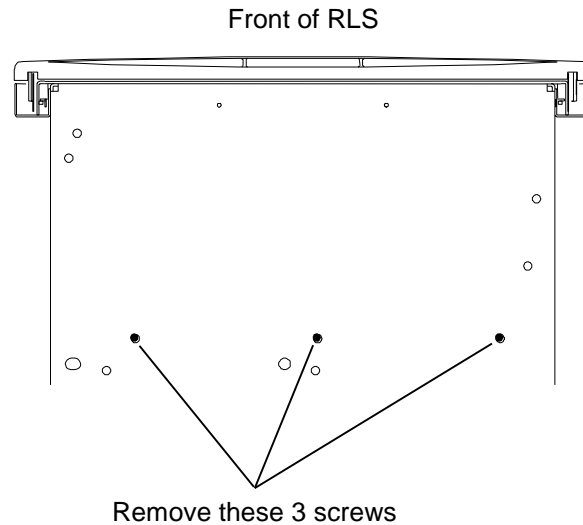

Figure 7-39 Bottom View of the RLS showing the Sensor Slave PCBA Bracket Screws
2. If the RLS is a tabletop model, slide the RLS forward far enough over the edge of the table so that the Sensor Slave PCBA bracket screws located on the bottom of the library can be accessed. See Figure 7-39.
3. There are three bracket screws located on the bottom of the library. Using a No. 1 Phillips screwdriver, remove the screws as shown in See Figure 7-39.
2. Using a No. 1 Phillips screwdriver, replace the three 6-32 x 1/4 flat-head screws on the bottom of the RLS that hold the Sensor Master PCBA bracket in place. See Figure 7-39.